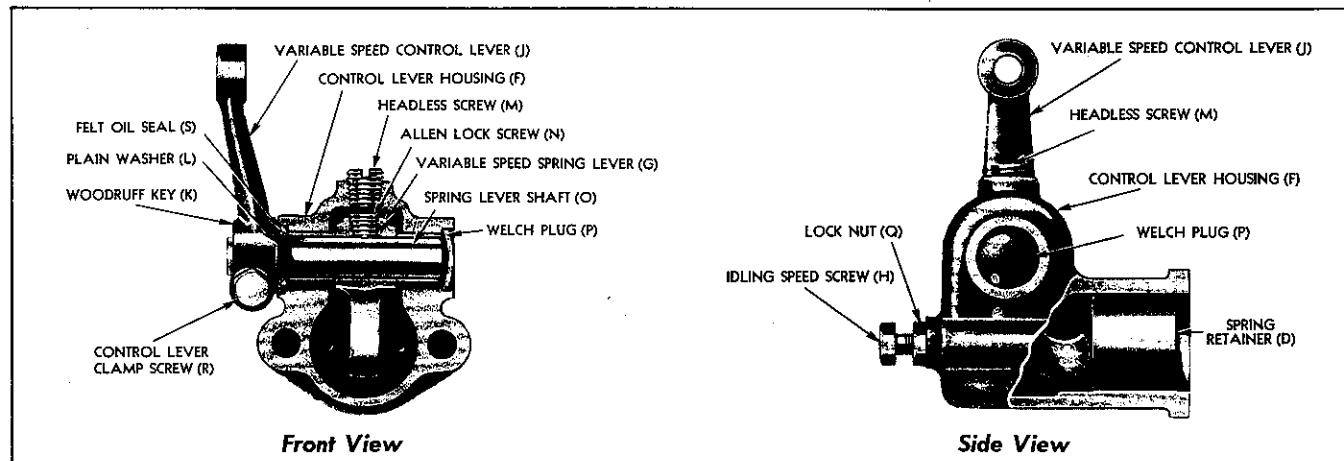

Fig. 27—Variable Speed Governor Control Housing and Lever Assembly.
1. With the spring housing and lever assembly removed from the governor control housing, loosen the control lever clamp screw and slip lever from shaft. Also, remove Woodruff key (See Fig. 27).
Governor Assembly—Barring the spring housing and lever assembly, displayed in Figs. 27 and 28, the governor assembly is the same as for the constant speed mechanical governor discussed on Page 10.
1. Support control lever housing (F) in bench vise and place spring lever (G) in position through opening at flange so that arm on lever points toward opening and lever shaft (O) can slip through hub of lever (See Fig. 27).
2. Apply some engine oil to shaft journals, and with end of shaft for key pointing out, put shaft (O) in position, so Allen lock screw (N) will enter bevel seat in shaft. Lock screw tight. Install headless screw (M).
3. Crowd felt oil seal washer (S) into counter-bore of housing at lever end of shaft and set plain washer (L) next to felt.
4. Crowd plain washer down tight against felt and place Woodruff key (K) in shaft.
5. Position speed control lever (J) with off-set at outer end of lever away from housing, and slip lever over end of shaft tight against plain washer. Tighten clamp screw (R).
- (a) With cover removed from control housing, put spring plunger (B) inside spring plunger guide (A) and install in bracket of housing with small diameter of plunger next to adjusting screw of bell crank (see Fig. 27).
- (b) Slip loosely wound end of coil spring (C) over end of plunger with opposite end protruding from housing.
- (c) Lubricate and place spring retainer (D) inside of control lever housing with hollow portion facing finished bolting flange.
- (d) Shellac a gasket (E) to bolting flange of control lever housing and slide housing assembly into position against control housing with spring entering spring retainer. Secure with two cap screws and lockwashers.